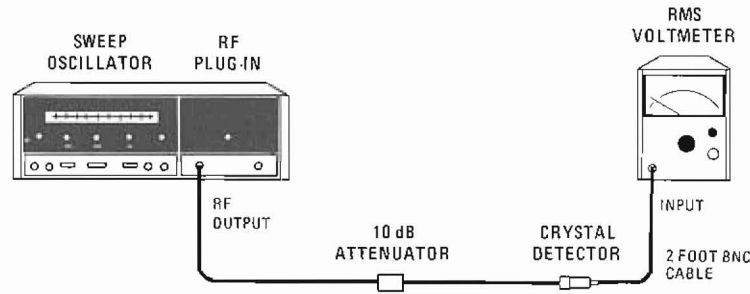

Figure 4-12. Residual AM Test Setup
- a. Connect equipment as shown in Figure 4-12.